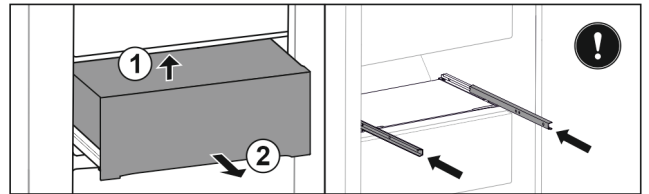

Fig. 29\*
- ▶ Lift up at the back from below Fig. 29 (1).\*
- ▶ Remove to the front Fig. 29 (2).\*